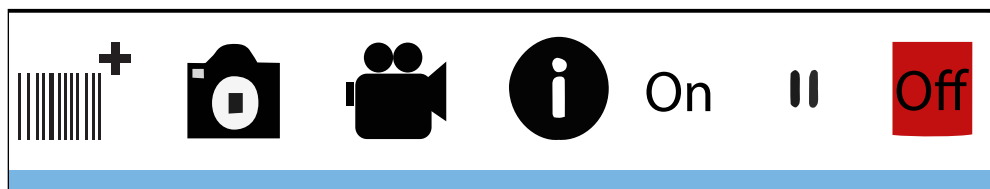

Figure 10-5
2. To turn the patient display on/off so that it shows the video from the camera, click the **On** or **Off** button either on the work area or on the patient display panel on the Imaging display. The Imaging display shows a preview of what the patient display will show. See Figure 10-5.